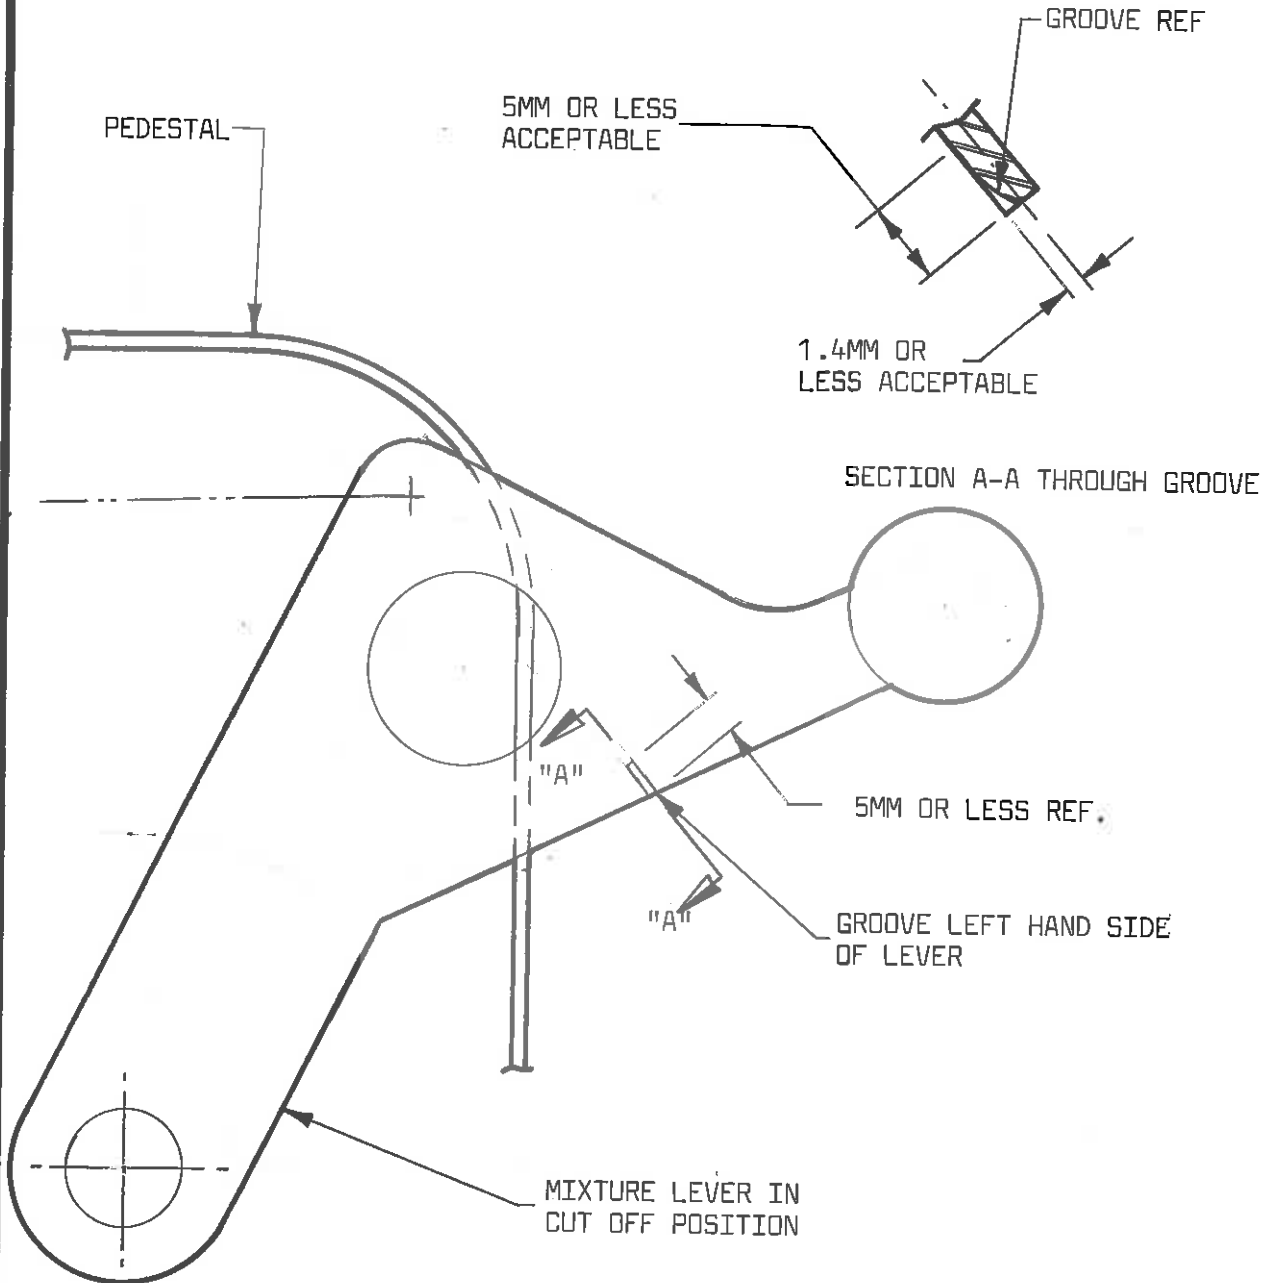

FIG 1
1. Visually inspect mixture lever for a groove. Ref Fig 1 for position.
- ii) If there is a groove and it is 5mm or less in length, on the side of the lever and/or the groove is to a depth of half thickness of the lever (1.4mm) or less - ref Fig. 1, Section A-A - the lever is to be changed at next 150 flying hours, either with a new existing aluminium lever T67G-50-553 or Mod M722, steel lever, to be invoked.